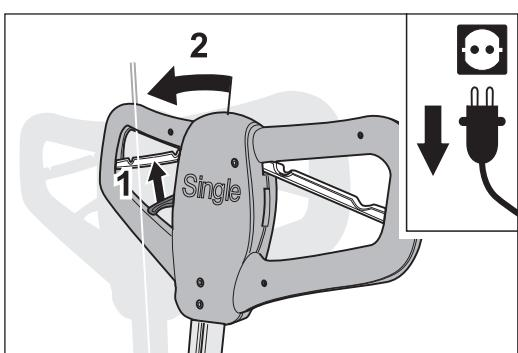

Fig. 13 Pull the adjusting lever to release the lock and push the guide tube up until it reaches the mechanical stop.
3 Pull the adjusting lever on the handle towards you to release the lock of the guide tube, and push the guide tube into and past the vertical position until it reaches the mechanical stop (Fig. 13).
- 3 Pull the adjusting lever on the handle towards you to release the lock of the guide tube, and push the guide tube into and past the vertical position until it reaches the mechanical stop (Fig. 13).